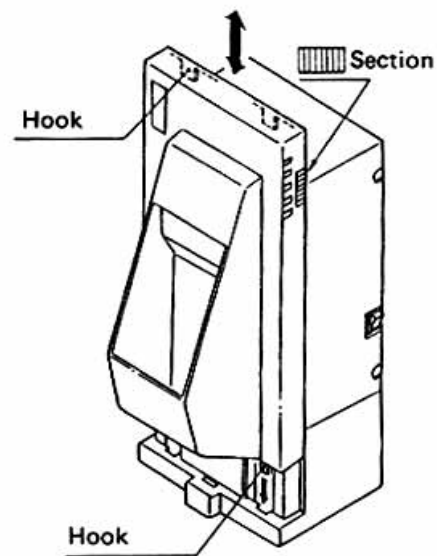

Fig. 10
- 4) For replacing the cover of the CBM-750, set 4 pieces of rear hooks into each square hole of the main unit, as shown in figure 10.